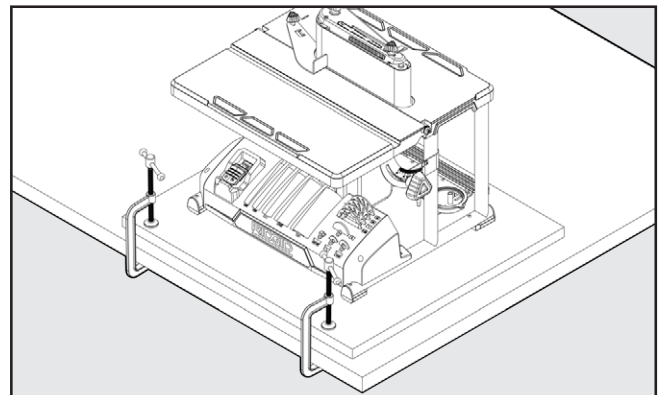

FIGURE 7
**NOTE:** For proper stability, holes must be countersunk so screw heads are flush with the bottom surface of supporting board. See Figure 7.